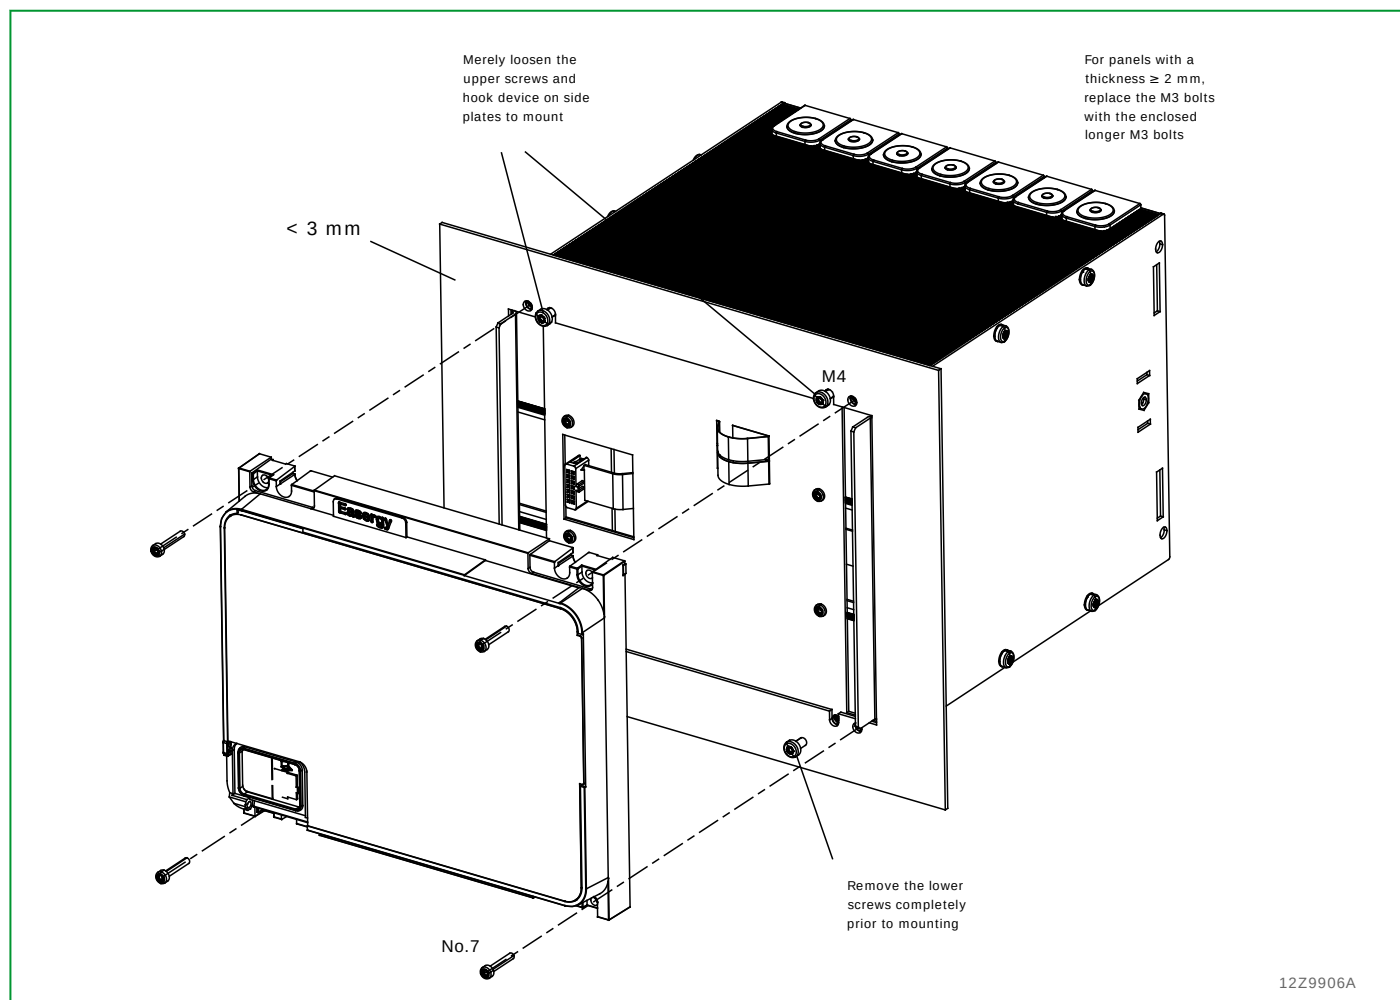

Fig. 5-3: Installation of a case into a control panel. Flush-mount method 1 (without the angle brackets and frame). Example for a device with a 40 TE case.
2. Remove the M3.5 screws (see Fig. 5-3, \(p. 5-9\)).
Then remove the lower M4 screws and only loosen the upper M4 screws (see Fig. 5-3, \(p. 5-9\)). Now insert the P433 into the panel opening from the rear so that the upper M4 screws fit into the corresponding holes. Then tighten all the M4 screws. After this, replace the local control panel.